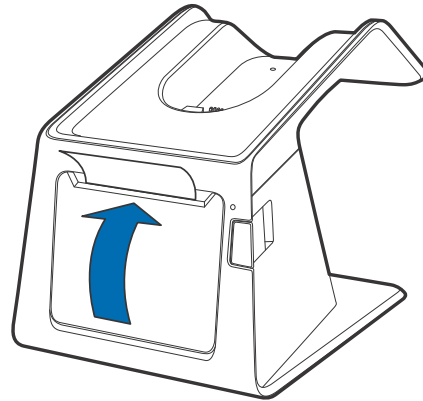

Figure 6 Closing Printer Door
- 7 Close the printer door by swinging upward until the door clicks shut, allowing a small amount of paper past the glue residue to extend outside the printer door. (see Figure 6).